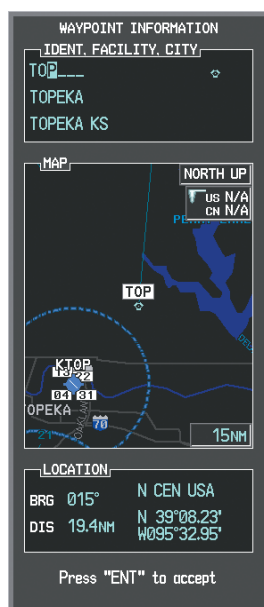

Figure 5-113 Entering V4 Entry Point
- c) Turn the small **FMS** Knob to display the Waypoint Information Window. Enter the desired entry point for V4, Topeka VOR (TOP), as shown in Figure 5-113.